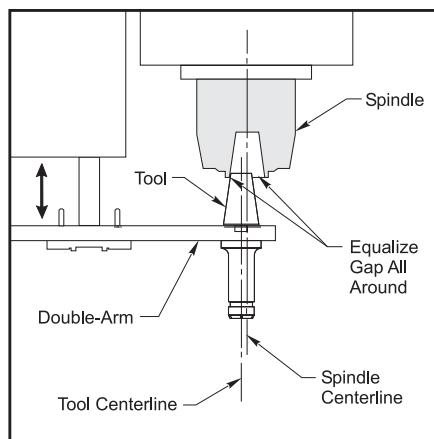

Figure 3.12-10 Double Arm to Spindle Center Alignment, along the Y-axis.
3. Raise and lower the double-arm to move the tool in and out of the spindle. Check for alignment. Refer to Figure 3.12-10.
4. Check the X-axis alignment of the split tool to the spindle center. Refer to Figure 3.12-10.